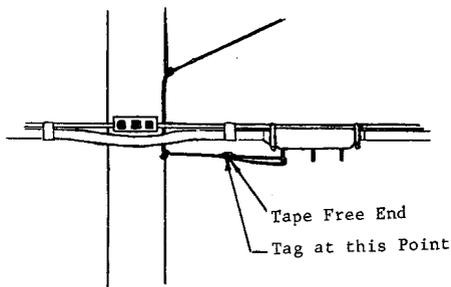

Figure 2. Drop Wire Disconnected at
- 3.02 At aerial cable terminals, wire terminals, and outside building terminals, the drop shall be doubled back at the first ring and taped to itself with three wraps of friction tape (Figure 2).